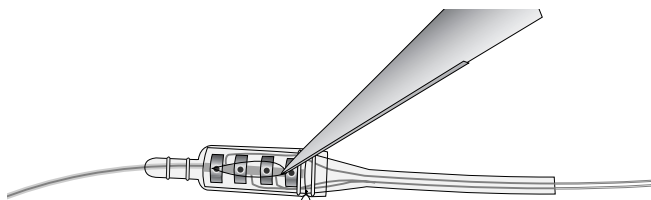

Figure 4. Cut the suture and connector boot to expose setscrews.
4. Cut the suture and the connector boot over the setscrews to expose the setscrews (Figure 4).